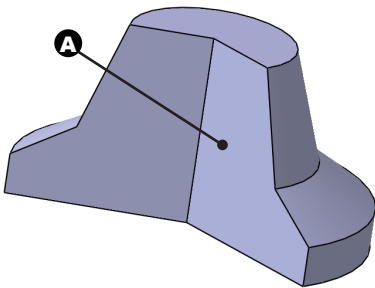

Fig 6-5 Sketch Plane
2. Invoke the **Sketcher** workbench by specifying the plane **A** in Fig 6-5 as the sketch plane.